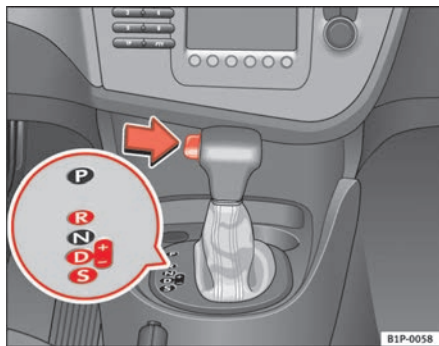

Fig. 122 Driving
- Press on the button on the selector lever knob (on the left, ⇒ fig. 122).